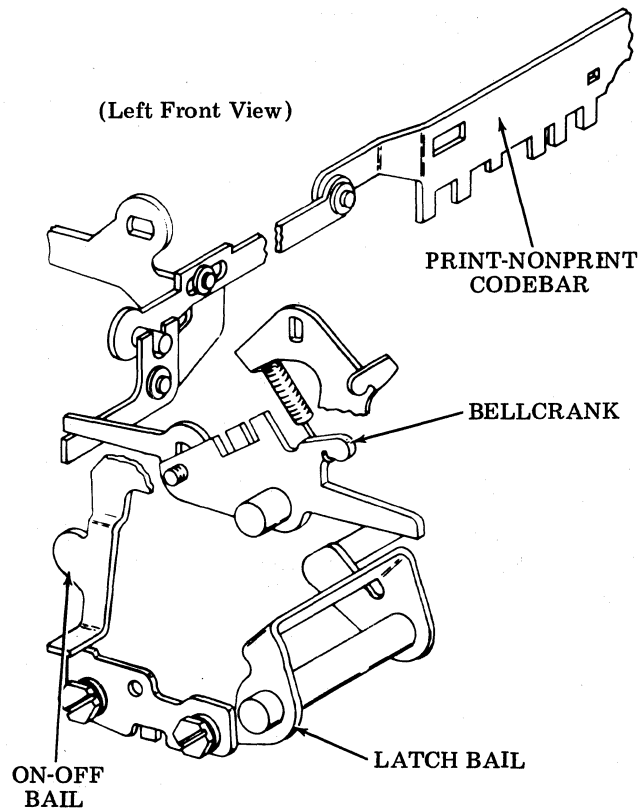

Figure 7 - 185703 Punch Interlock Mechanism
2.33 The function of the 185703 kit is to lock the punch in the "on" mode and prevent it from being automatically turned off. This modification requires that the set is equipped with an automatic punch and the 183986 print-nonprint modification. The punch interlock feature is particularly useful in transmission involving foreign or computer data. When receiving such data, the punch could be prematurely turned off by a code combination resembling the ASCII (American National Standard Code for Information Interchange) DC4 code. (See Figure 7.)